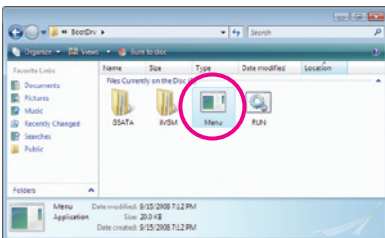
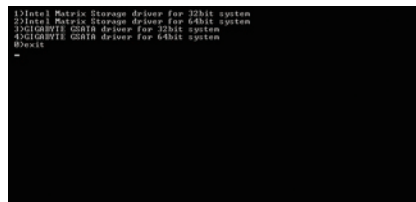

Figure 2
Figure 3
- 2: From your optical drive folder, double click the **Menu.exe** file in the **BootDrv** folder (Figure 2). A Command Prompt window will open similar to that in Figure 3.
- 3: Insert the blank formatted disk. Select the controller driver by pressing the corresponding letter from the menu and press <Enter>. For example, from the menu in Figure 3,